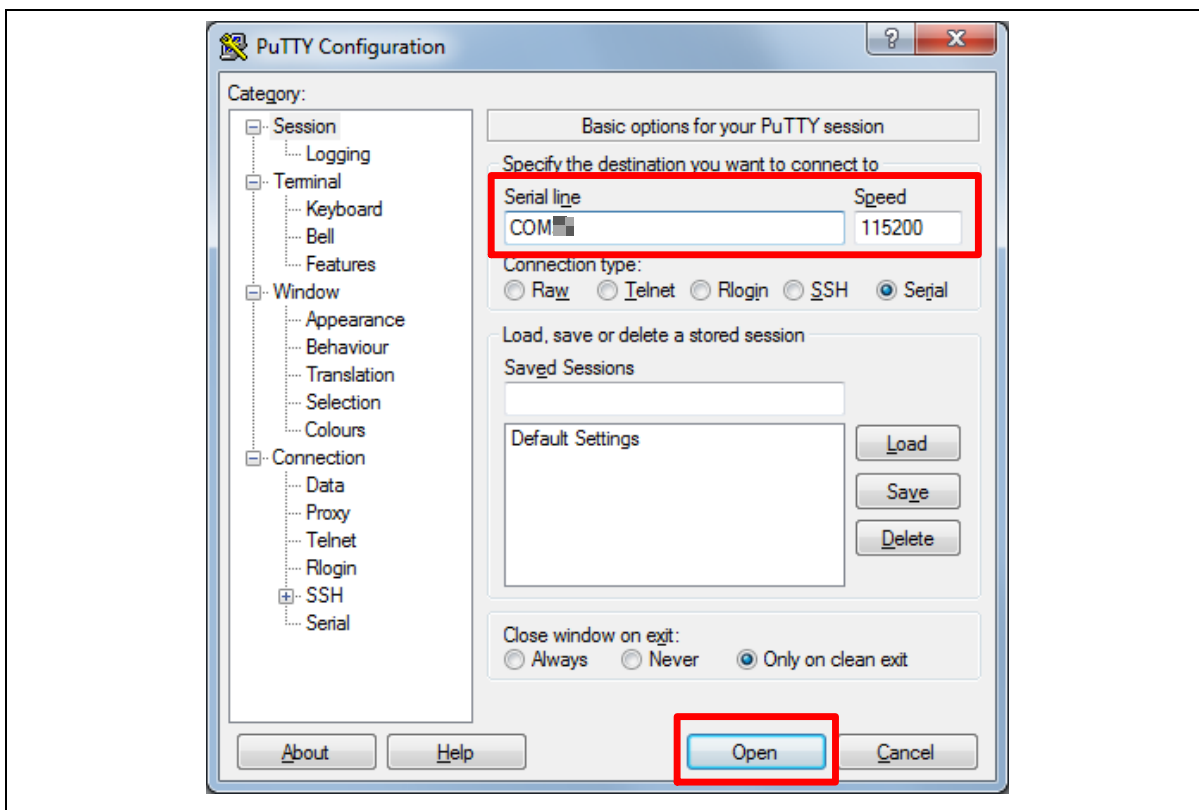

Figure 3.4-4 PuTTY Session Setting
- 4. Open a serial port terminal, PuTTY for example, to print out debug message. Set the speed to 115200. Figure 3.4-4 presents the PuTTY session setting.